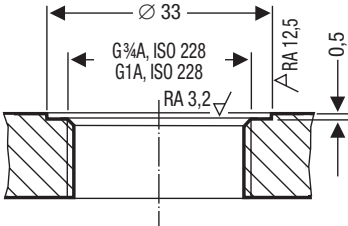

Fig. 12
1. Check seating surfaces, **Fig. 12**
- The seating surfaces and threads on the vessel and mounting flange must be accurately machined, **Fig. 12**